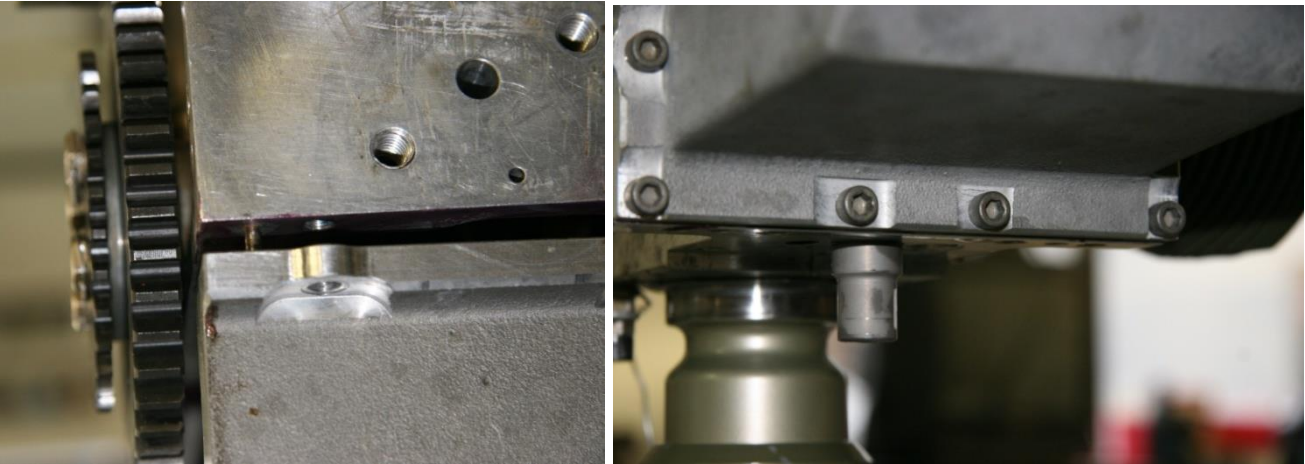

Figure 173 – Fitting Sump
- Fit the sump using cap screws and locating pins as shown in Figure 173. Note that on early engines the length of the screw which is in line with the internal oil pickup is 5/8" long compared to ¾" for all other locations. Later sumps have a raised boss for this position allowing the longer screw to be used.